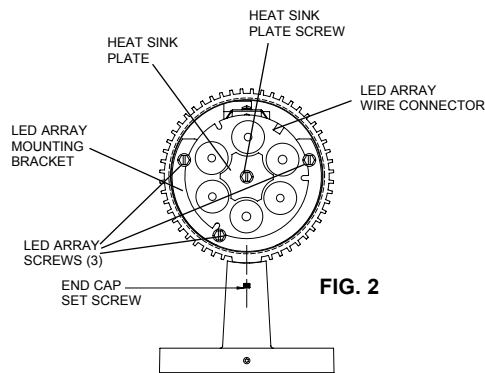

FIG. 2
1. Using the Allen Key provided, loosen the end cap set screw. Remove the lens assembly by rotating the end cap counter clockwise (Fig. 2).
2. Remove three LED array screws (Fig. 2). Keep screws for later assembly.
4. Disconnect power supply wires by disengaging the connector from the LED array wire connector (Fig. 2). Note: Firmly hold the LED array and gently pull wire by clasp the wire connector.
5. Remove the heat sink plate screw and heat sink plate to disengage the heat sink from the LED array (Fig. 2).
6. Secure the replacement LED array to the heat sink by replacing the heat sink plate and screw from step 5 (Fig. 2). Note: Make sure that the LED array wire connection is oriented away from the wall bracket as illustrated in Fig. 2.
7. Connect the power supply to the LED array and slide LED array assembly into fixture (Fig. 2). \* Note: Hold the wire connector firmly when engaging with LED array connector. Ensure proper pin orientation and secure firmly.
8. Secure the LED array assembly to the LED array mounting bracket with three screws from step 2 (Fig. 2).
3. Remove three LED array screws (Fig. 2). Keep screws for later assembly.
5. Disconnect LED power supply wires by disengaging the connector from the LED array wire connector and the driver. Disconnect black and white power supply leads from the driver (Fig. 2).
10. Secure lower LED array to the mounting bracket with three screws from step 2 (Fig.2).